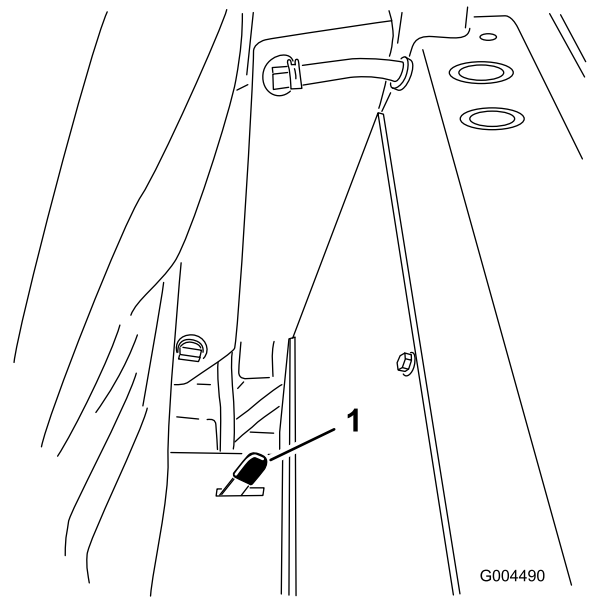

Figure 25
2. Push one of the seat latches, located behind and to the sides of the seat, rearward to unlatch the seat and pull forward on the top of the seat (Figure 25).